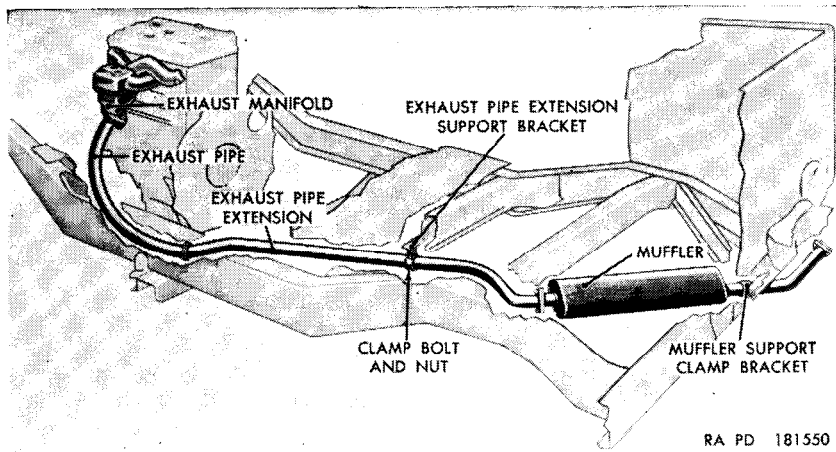
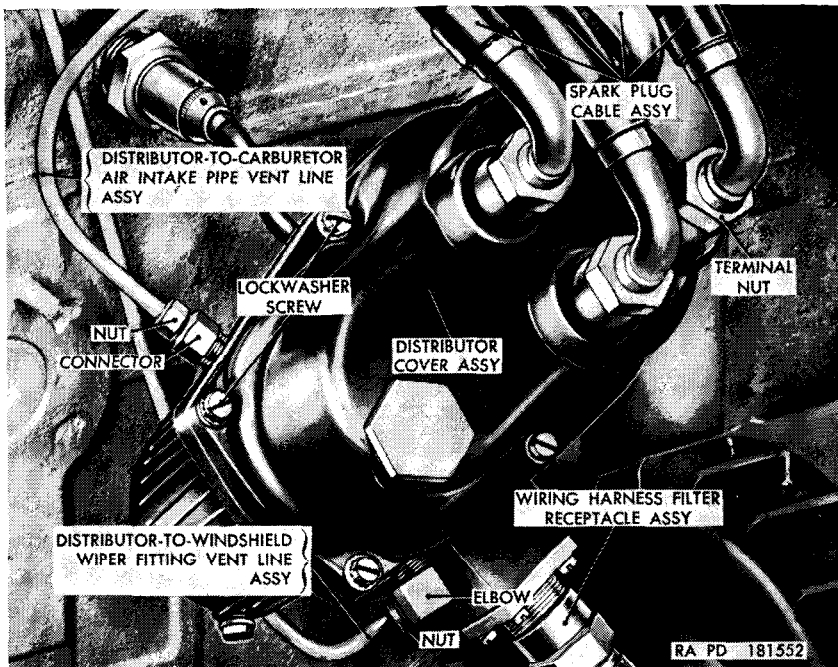
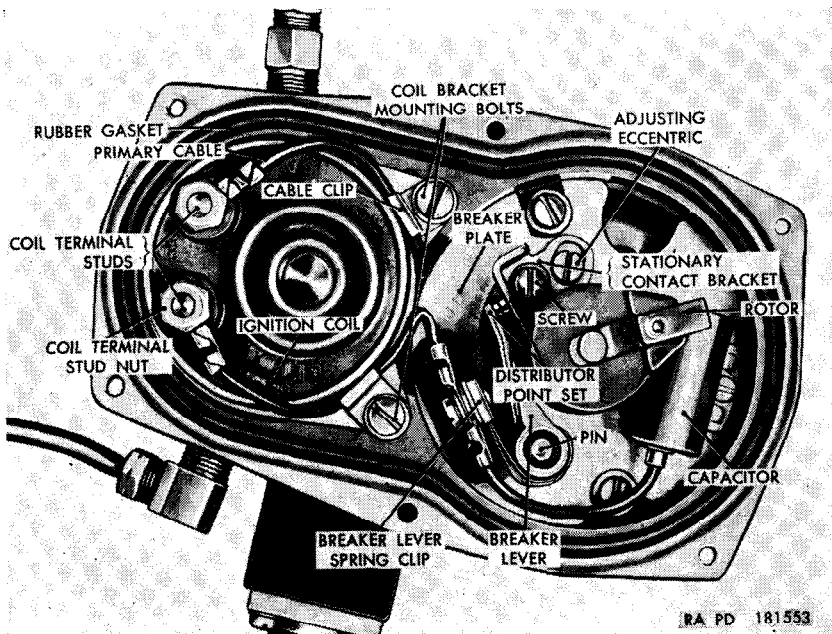
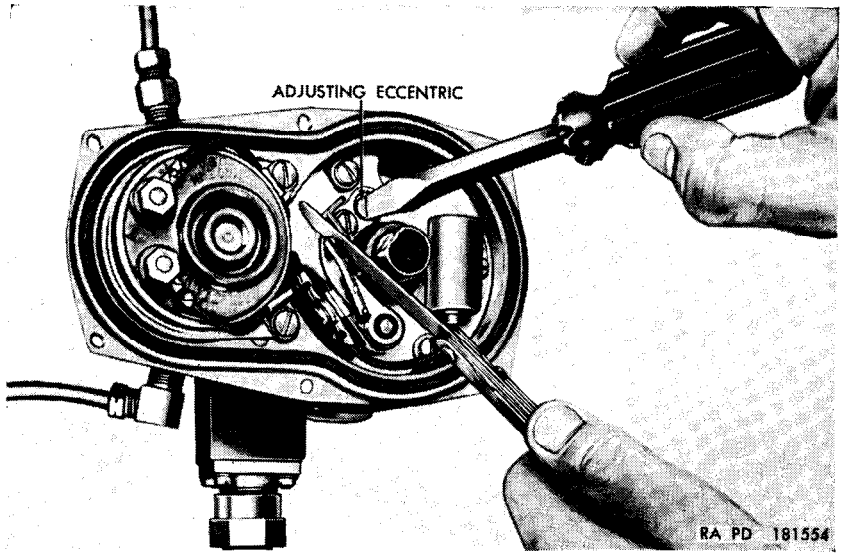

Figure 53. Exhaust system.
Figure 55. Distributor with coil assembly—installed.
Figure 56. Distributor with coil assembly—distributor cover and cap assemblies removed.
Figure 57. Adjusting distributor point set.
The exhaust system (fig. 53) consists of the exhaust pipe, exhaust pipe extension, muffler, exhaust pipe extension support bracket, and muffler support clamp bracket. The tail pipe is part of the muffler and has a flange at the rear end for attaching the fording kit extension.
(fig. 53)
- (2) *Distributor with coil assembly* (fig. 55). The distributor, capacitor, and ignition coil comprise a single unit with automatic spark advance built-in to vary the ignition timing for most efficient operation. The assembly is located on the right side of the engine and is driven from the camshaft.
- (3) *Spark plugs.* The 14-mm spark plugs are shielded and waterproof, with built-in resistors for radio interference suppression.
- (4) *Spark plug cable assemblies* (fig. 55). The spark plug cable assemblies are fully shielded and waterproof, with threaded connectors on each end.
b. Mark the position of No. 1 spark plug cable assembly (fig. 55) on the side of the distributor with coil assembly, to aid in determining the position of the distributor rotor after the distributor cover and cap assemblies are removed.
c. Remove six lockwasher screws securing the distributor cover and cap assemblies (fig. 55) and remove the assemblies. Turn the crankshaft until the distributor points are open, with the breaker lever (fig. 56) on one of the four high points of the cam. Loosen the screw securing the stationary contact bracket to the breaker plate. Adjust the point gap by turning the adjusting eccentric (fig. 57) until a 0.020-inch feeler gage will enter between the points with a slight drag on the gage. Tighten the screw securing the stationary contact bracket to the breaker plate and again check the point gap.
d. On early production vehicles, turn the crankshaft with a crank, or suitable socket wrench, until the distributor rotor points to the mark (*b* above) and the timing mark "5 BTC" on the flywheel is alined with the pointer in the timing hole in the flywheel housing. On late production vehicles, aline the hole in the back of the fan and generator drive pulley (fig. 57) with the "5" mark on the timing gear cover (fig. 57).
f. Be sure that the rubber gasket (fig. 56) is seated in its groove. Position the distributor cover and cap assemblies over the gasket and secure with six No. 10 x $1\frac{1}{16}$ lockwasher screws (fig. 55).
- (1) *Removal.* Remove the six lockwasher screws (fig. 55) securing the distributor cover and cap assemblies and remove the assemblies. Remove the three screws and lockwashers holding the distributor cap assembly to the distributor cover assembly and remove the cap. Do not lose the four cap sealing washers between the cover and cap assemblies.
- (2) *Installation.* Install the four cap sealing washers on the four projections on the top of the cap assembly. Position cap assembly inside the cover assembly and secure in place with three No. 8-32 x 1 screws and internal-teeth lockwashers. Install the distributor cover and cap assemblies on the distributor (par. 142f).
b. Distributor Point Set (fig. 56).
- (1) *Removal.* Remove six lockwasher screws (fig. 55) securing the distributor cover and cap assemblies and remove the assemblies. Loosen the screw securing the breaker lever spring clip and slide the breaker lever spring up and out of the clip. Lift the breaker lever up and off the pin. Remove the screw securing the stationary contact bracket and remove the bracket.
- (2) *Installation.* Place the stationary contact bracket over the pin in the breaker plate, and over the adjusting eccentric. Install the No. 8 x $\frac{3}{16}$ screw securing the bracket to the plate, but do not tighten. Place the breaker lever onto the pin on the breaker plate and position the slot in the breaker lever spring over the screw, inside the breaker lever spring clip. Push the breaker lever onto the pin as far as it will go and tighten the screw securing the clip, making sure that the spring and terminals are alined.
c. Capacitor (fig. 56).
- (1) *Removal.* Remove the six lockwasher screws (fig. 55), and remove the distributor cover and cap assemblies. Loosen the screw securing the breaker lever spring clip, and lift the capacitor cable terminal from the screw. Remove the screw securing the capacitor to the breaker plate and remove the capacitor.
- (2) *Installation.* Position the capacitor on the breaker plate and secure it with one No. 6 x $\frac{3}{16}$ screw. Place the capacitor cable terminal on the screw securing the breaker lever spring clip and tighten the screw. Install the distributor cover and cap assemblies (par. 142f).
d. Rotor (fig. 56).
- (1) *Removal.* Remove the six lockwasher screws (fig. 55), and remove the distributor cover and cap assemblies. Lift the rotor up and off the cam.
- (1) *Removal.* In vehicles after serial No. 20601, unscrew and remove the six lockwasher screws (fig. 53) securing the distributor cover assembly to the distributor housing and remove the assembly. Loosen the nut (fig. 56) on the positive terminal of the ignition coil and remove nut, washer, and terminal of ignition coil primary cable.
Loosen the coil bracket mounting bolt securing the cable clip, for the primary cable, to the coil mounting bracket and remove bolt, lockwasher, and clip. Unscrew the nut (T, fig. 33) securing the primary cable to the wiring harness filter receptacle, and pull the cable from the receptacle. Remove the four lockwasher screws securing the wiring harness filter receptacle (fig. 55) to the distributor housing. Pull the receptacle assembly from the distributor housing, and separate the capacitor from the receptacle.
a. Removal. Remove the six lockwasher screws (fig. 55) and remove the cover and cap assemblies. Remove the two coil terminal stud nuts, and lift the terminals from the studs. Remove the coil bracket mounting bolts and two cable clips. Lift the coil straight out and remove.
b. Installation. Slide the coil into position, with terminals spaced as shown in figure 56. Place the cable terminals on the coil terminal studs. Arrange the cables as shown in figure 56 and secure each terminal with a No. 10 coil terminal stud nut and lockwasher. Place the cable clips in position to hold cables. Install one No. 10 x $\frac{7}{16}$ coil bracket mounting bolt, through each cable clip and hole in the coil bracket and into the hole in the distributor base. Install the distributor cover and cap assemblies (par. 142f).
- (1) *Removal.* Mark the spark plug cable assemblies for identification. Unscrew the terminal nuts (fig. 55) and disconnect the cables from the distributor cover assembly. Unscrew the terminal nuts and disconnect the cables from the spark plugs, and remove the cables.
- (2) *Installation.* Place the spark plug cable assemblies in position, with the long cable for No. 1 cylinder. Start the terminal nuts onto the threads on the spark plugs, but do not tighten until the cables are alined. Start the terminal nuts onto the threads on the distributor cover assembly (fig. 55), making certain that the correct firing order is maintained. Aline the cables at the distributor cover and spark plugs, to avoid kinks or sharp bends. Tighten the terminal nuts on both ends of the cables.
(fig. 55)